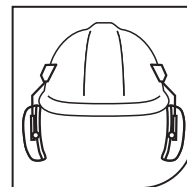

Fig 11
- **Storage Position:** When the helmet is not in use, lower the earmuffs and press them inward. Keep the cups clean and dry and store at normal room temperature (Fig 11).